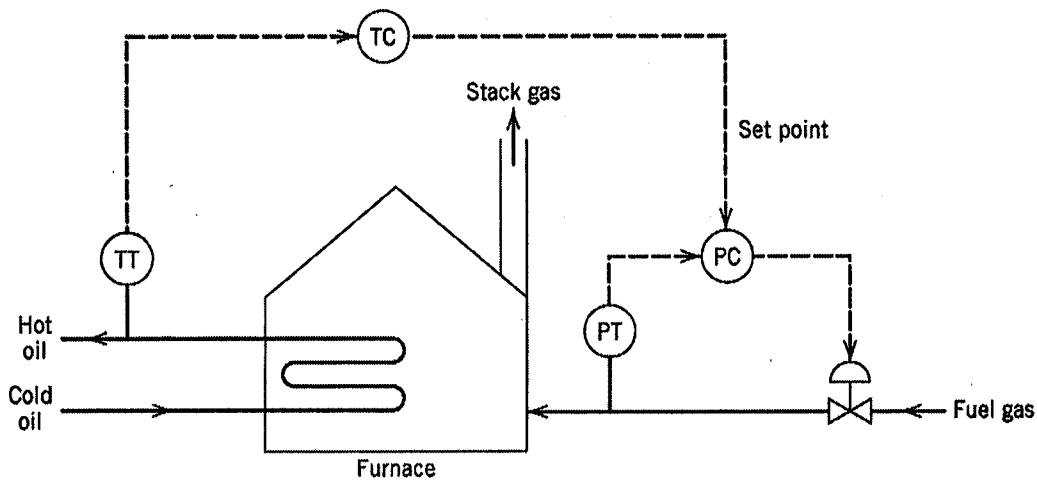

Figure Q5(b)
- (b) Consider the natural draft furnace temperature control problem. Figure Q5(b) shows a cascade control configuration for the furnace, which consists of a primary control loop (utilizing TT and TC) and a secondary control loop that controls the fuel gas pressure via PT and PC.